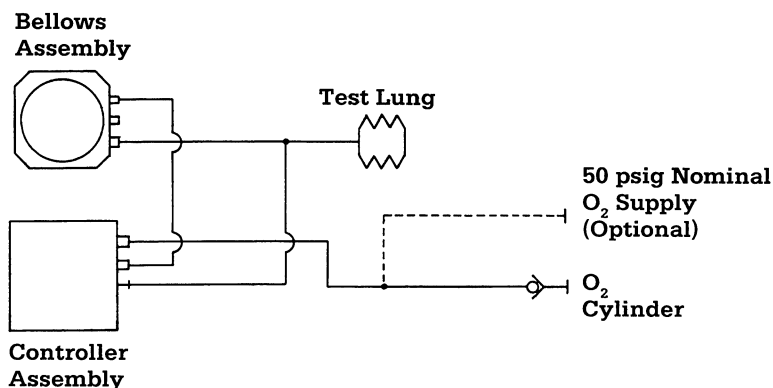

Figure 7-7
1. Set up the unit as in Section 7.15, Figure 7-7. Set the ventilator controls to: